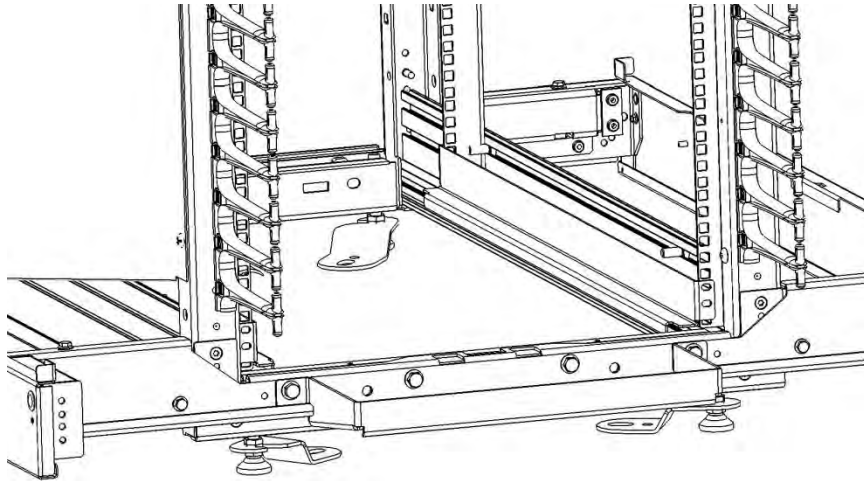

Fig. 2.3.1a Position floor anchor brackets inside the cabinet frame
- If using floor anchor brackets to secure leveling feet, position the brackets inside the frame as shown in Figure 2.3.1a below.